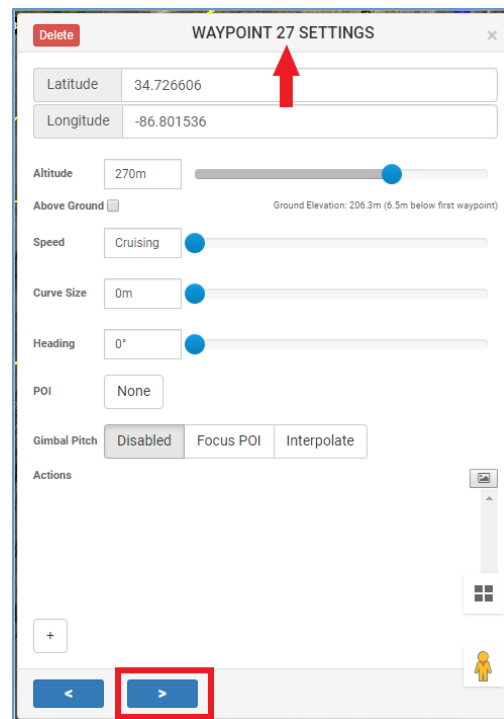

Figure 24 – Waypoint Settings
33. Click on one of the waypoints to select it. Click the right arrow (Figure 24) to move to the next highest waypoint. Continue until you have reached the highest numbered waypoint. The selected waypoint is shown at the top of the waypoint setting dialog.